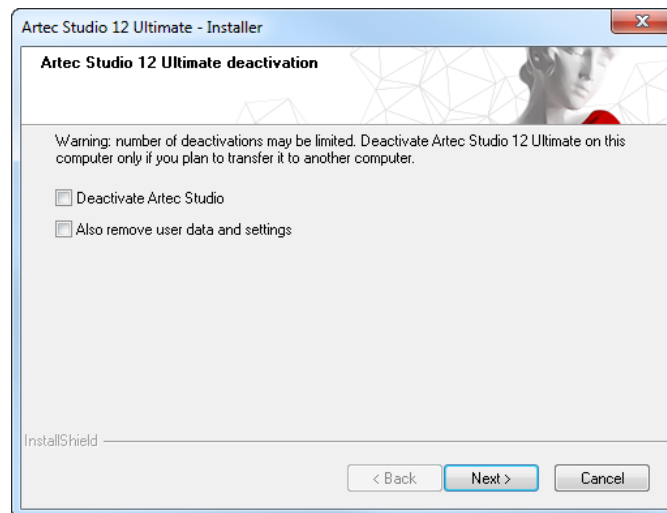

Figure 4.17: Deactivation of Artec Studio.
3. The dialog shown in Figure 4.17 will appear. Select the *I understand. Deactivate Artec Studio on this computer* checkbox.